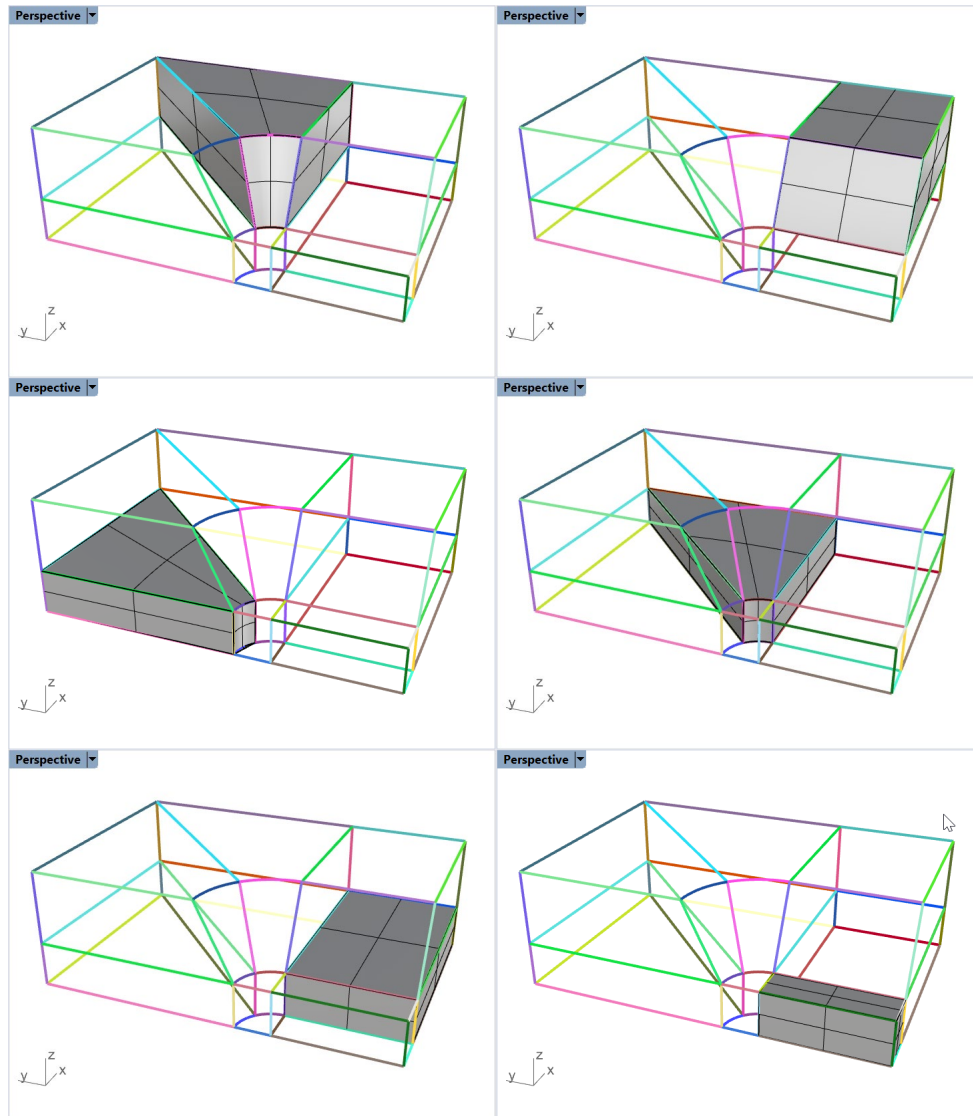

Figure 45: Building solid blocks for the model.
17. In the same manner, build all other solid blocks except for the small central block, as it requires an additional operation (described below). The stages are outlined in Figure 45.